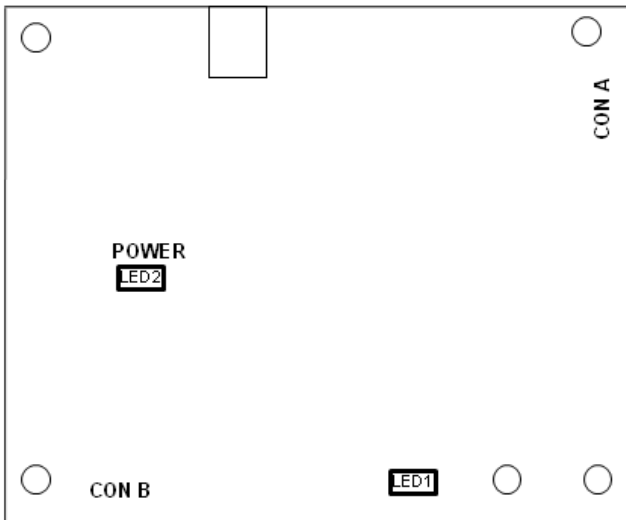

Figure 2-1. SDP Board LEDs
- Corrected the pin names for pin 21 ($\overline{\text{PAR_RD}}$) and pin 22 ($\overline{\text{PAR_CS}}$) in the table describing the 120 pin connector. In Table 2-1 on page 2-3 of the revision 1.1 book, the pin names were swapped, but the pin descriptions were correct. The pin assignments in Figure 2-1 on page 2-3 following the table of the revision 1.1 book were correct.
There are two LEDs located on the SDP board. Refer to Figure 2-1.